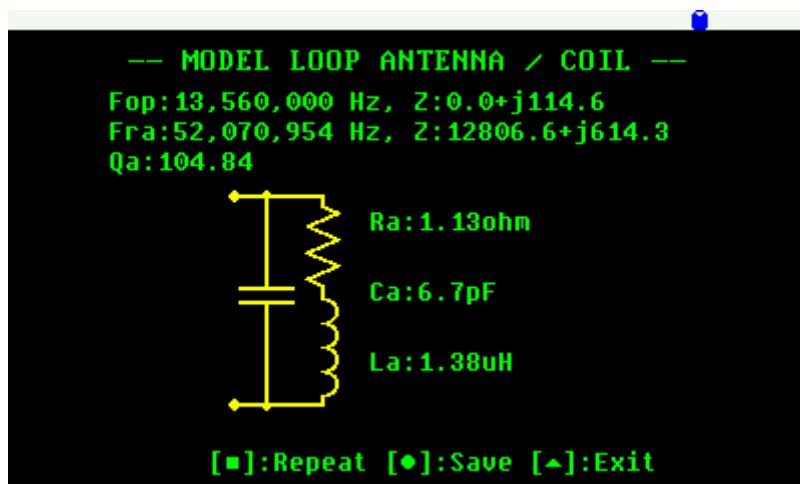

Figure 8, antenna equivalent circuit model screen
- Step 7. After some seconds the results are shown on the screen (Figure 8). It is convenient saving the screen by selecting [●]